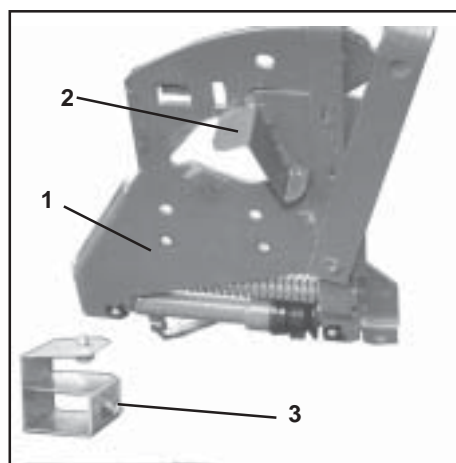

Fig. 11.15
- hold special guide plate (Fig. 11.15/3) against standardly supplied guide plate (Fig. 11.15/2).